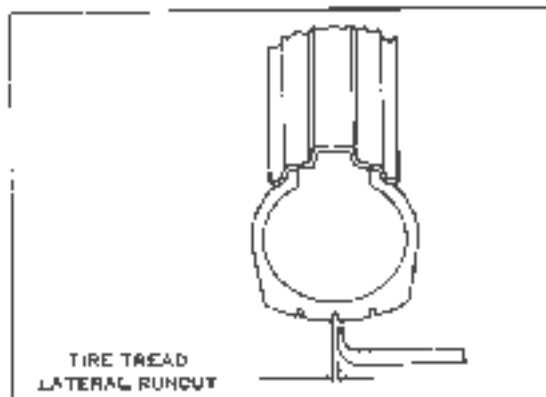

Figure 2-26. Checking Tire Lateral Runout.
1. Check runout by turning wheel on axle, measuring amount of sideways displacement from a fixed point near the tire (see Figure 2-26).